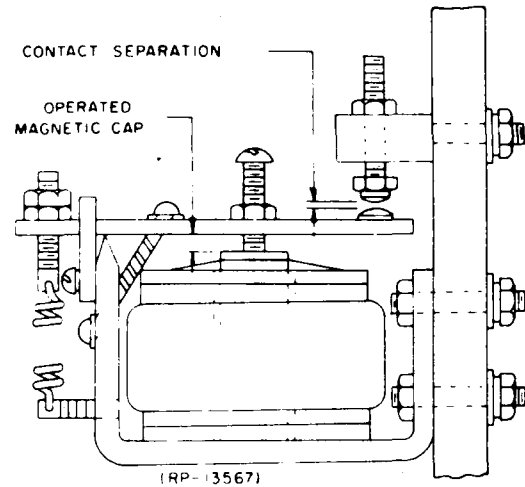

FIG. 3 SR RELAY SHOWN IN OPERATED POSITION
4.242 Contact pressure of SR relays depends on the tension in the armature spring. If pressure appears to be insufficient, readjust the contact gap toward the minimum and increase tension of the armature spring. See Figure 3.